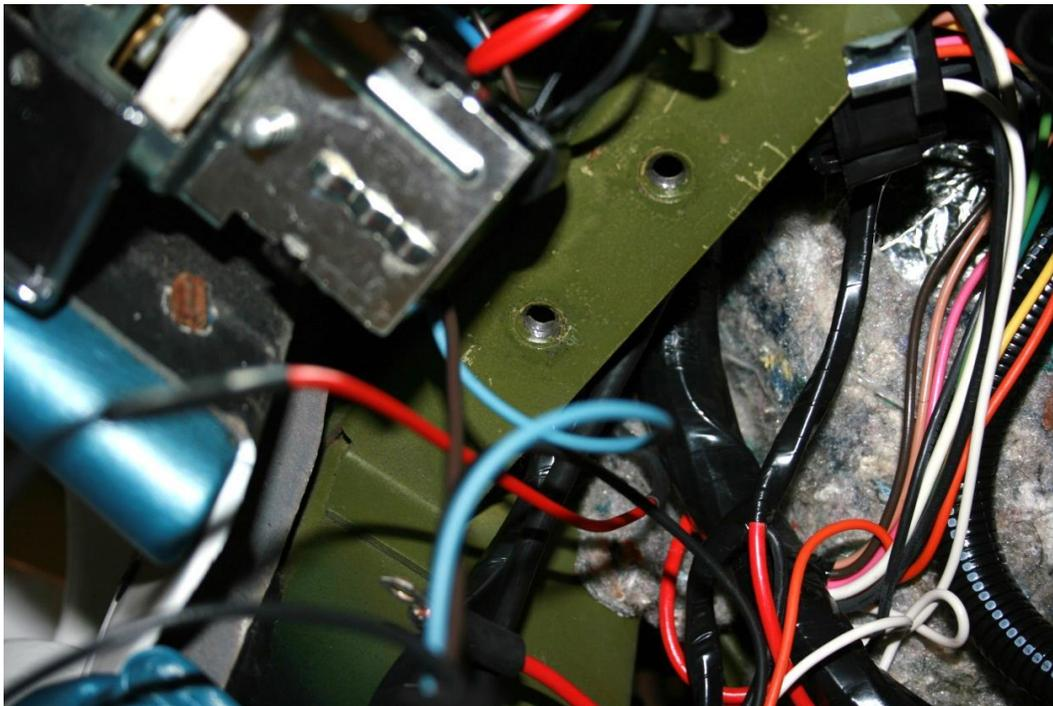

Figure 11
23. The DSE Electric Headlight Door Kit Control Module bracket is designed to be mounted to the two threaded holes on the far left side of the dash just above the driver's side kick panel as shown in Figure 11. If the vehicle has the hood release cable bracket mounted in these holes, remove the two bolts that hold the hood release cable bracket. Install the headlight door control module mounting bracket under the hood release cable bracket and reinstall the bolts as shown in Figure 12. If the hood release cable is not mounted through these holes, use the included 5/16"-18 x 3/4" Flange Head Hex Cap Screws to mount the module in the position shown in Figure 12.